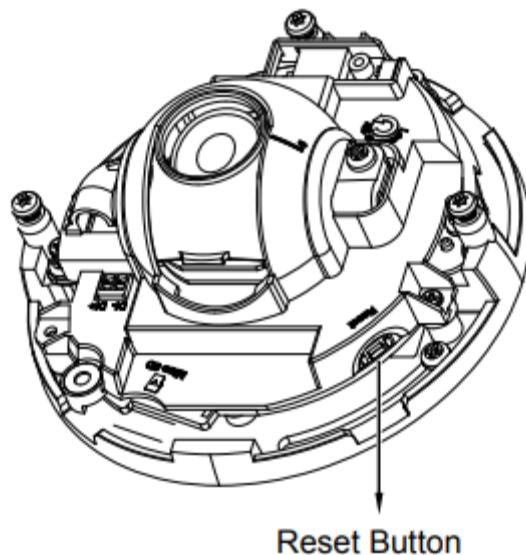

Figure 8-6: Hardware Reset Button Location for Vivotek Camera
2. While the camera is powered, depress the hardware reset button shown in Figure 8-6 until the status LED on the camera rapidly blinks then release the button.